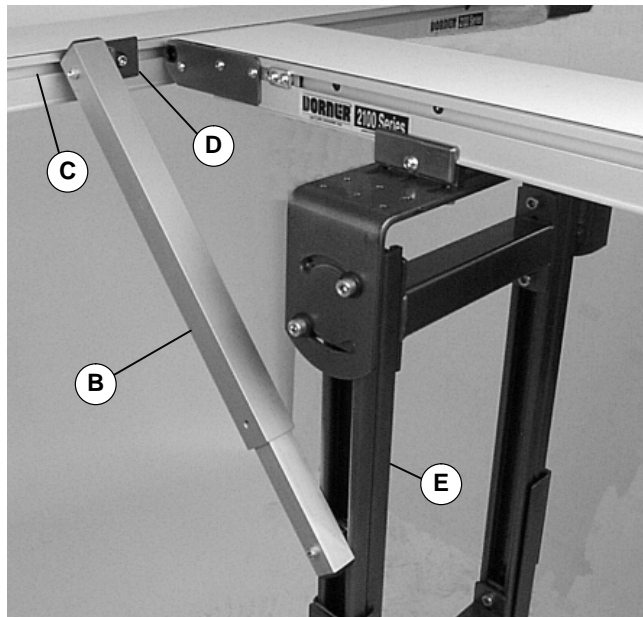

Figure 1
The adjustable tie bracket is a universal bracket compatible with Dorner conveyors and stands. Refer to Figures 1, 2 & 3 for some typical configurations.
- Conveyor (4100 Series not applicable) to stand mounting (Figure 1)